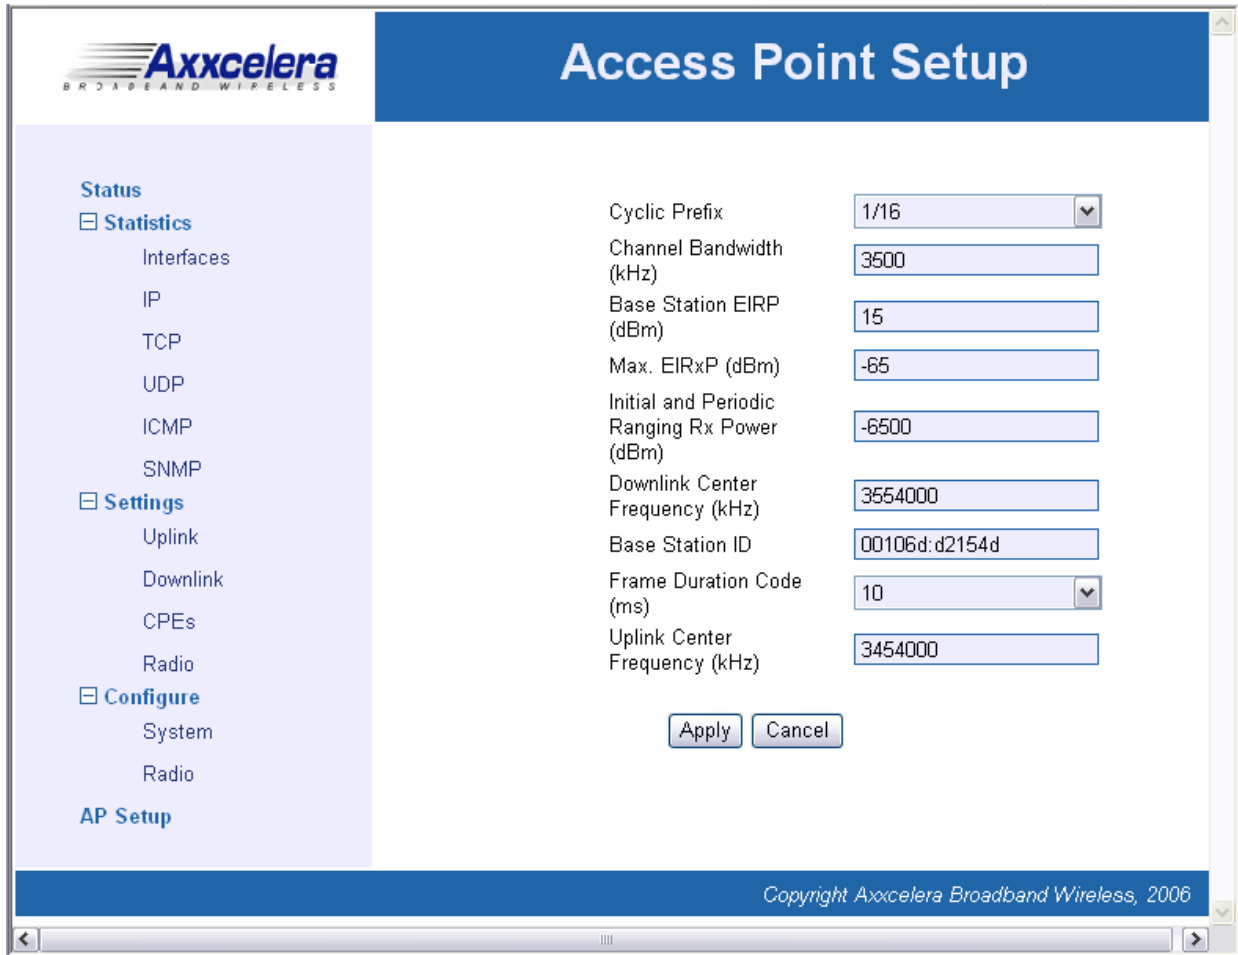

Figure 9-2 Access Point Setup screen
6) When the **Access Point Setup** screen appears (Figure 9-2), enter the desired parameters.